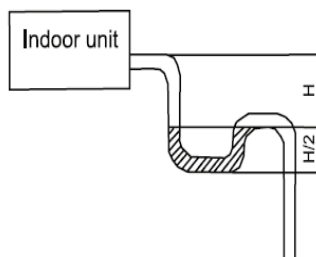

Figure 3-1-39
- (4) When the drain hose cannot keep a sufficient gradient, it is necessary to fit a riser pipe (field supplied) to it.
- (5) If the air flow of indoor unit is high, this might cause negative pressure and result in return suction of outdoor air. Therefore, U-type water trap shall be designed on the drainage side of each indoor unit. (Figure 3-1-39)
- (6) Install one water trap for each unit.
- (7) Installation of water trap shall consider easy cleaning in the future.